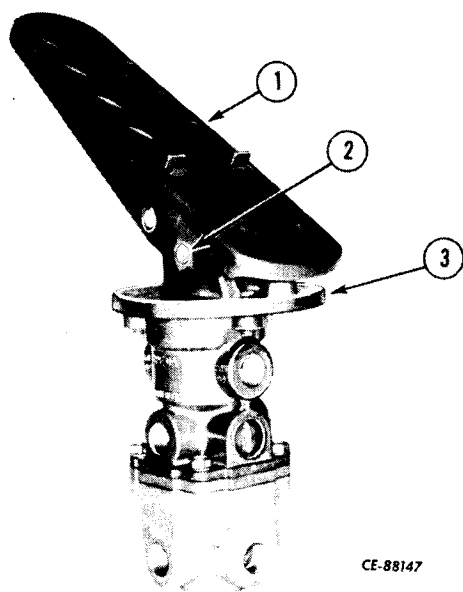

Figure 13-25
Remove cotter pin from fulcrum pin (2, Fig. 13-25). Drive out fulcrum pin securing treadle (1) to mounting plate (3). Remove treadle assembly.